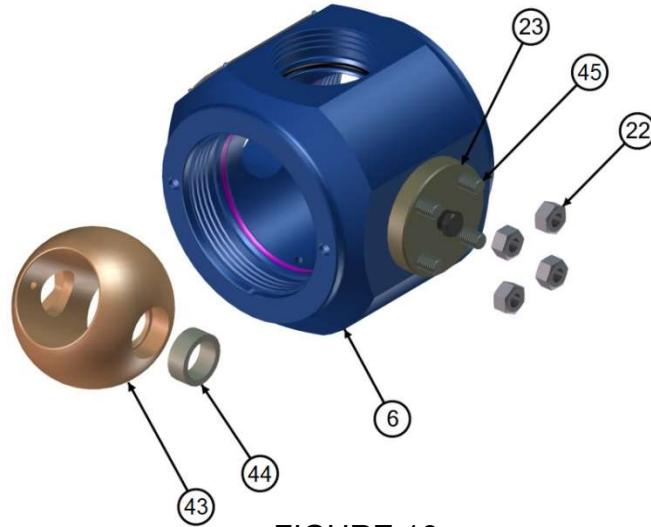

FIGURE 13
- 1) Install the bearing ring (44) (**FIGURE 13**) it into the ball (43).
- 2) Carefully insert the ball into the body (6) while guiding the trunnion (23) into the bearing ring in the ball.
- 3) Thread the nuts (22) onto the studs (45), finger tighten only. Nuts will be properly torqued in step 8.4.23.